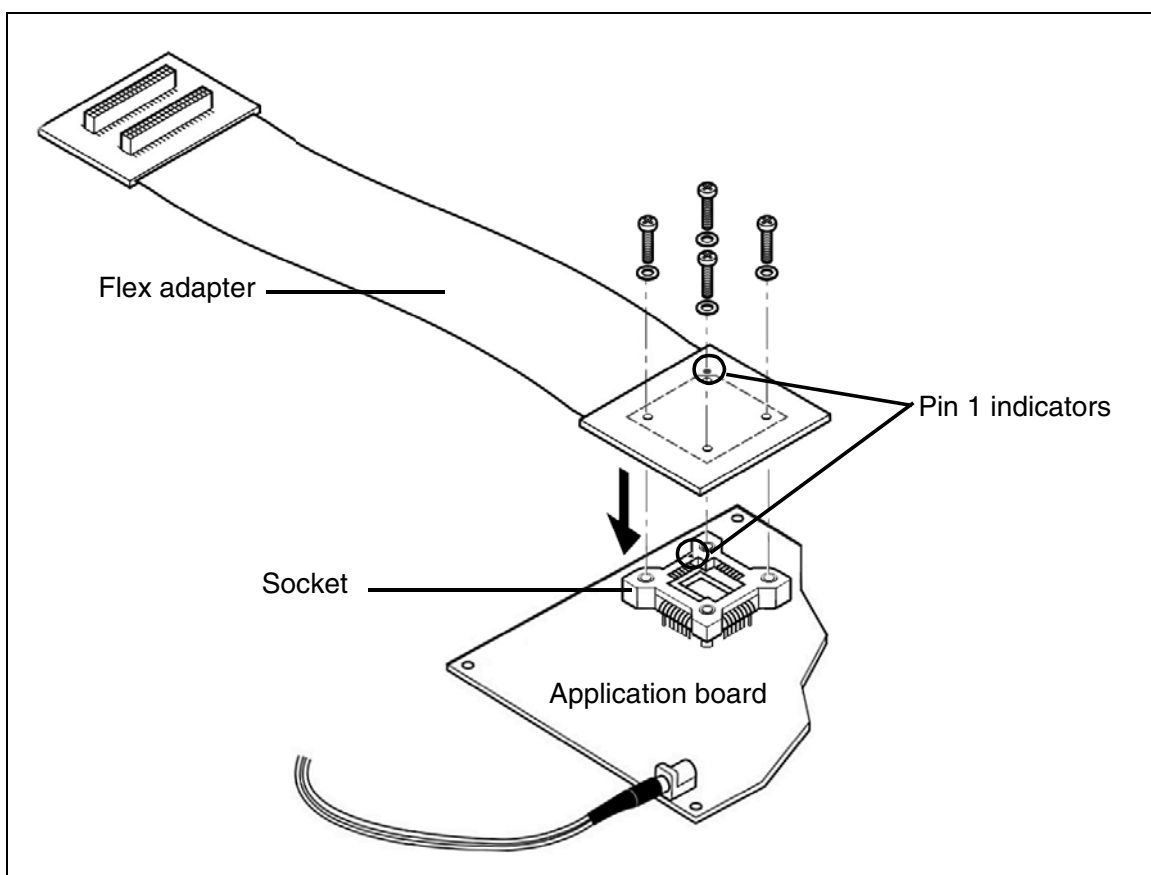

Figure 6: TQFP44 (10 x 10) connection scheme
- 2 Align the pin 1 indicators on the TQFP44 end of the DB521 flex adapter and the TQFP64 socket. Then insert the connector on the flex adapter into the socket on your application board as shown in Figure 6, and fasten with the provided screws.